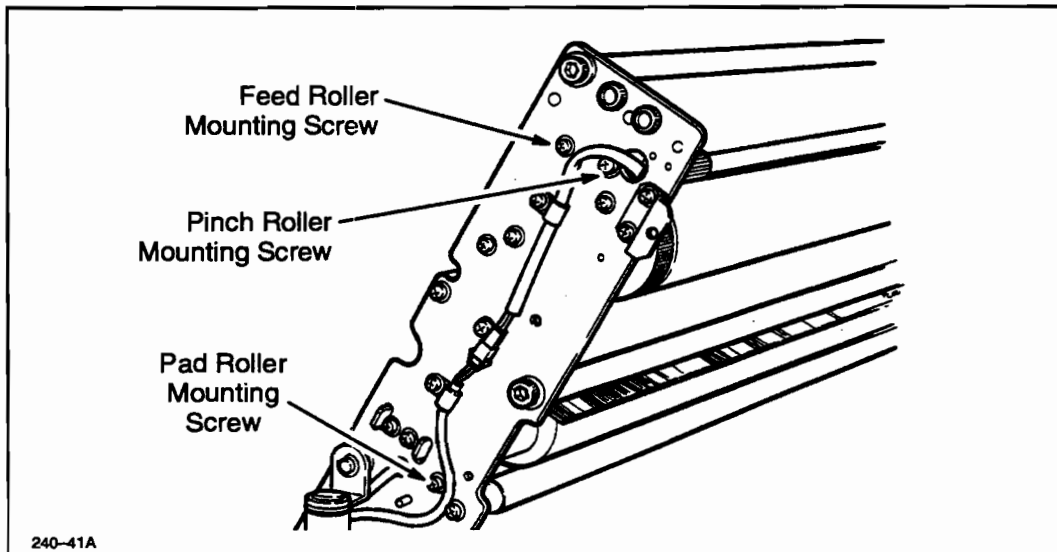

Figure 6-70. Left Pad-Roller Arm Mounting Screw
6. Using a #2 Phillips screwdriver, remove the left pad-roller arm mounting screw. See Figure 6-70.